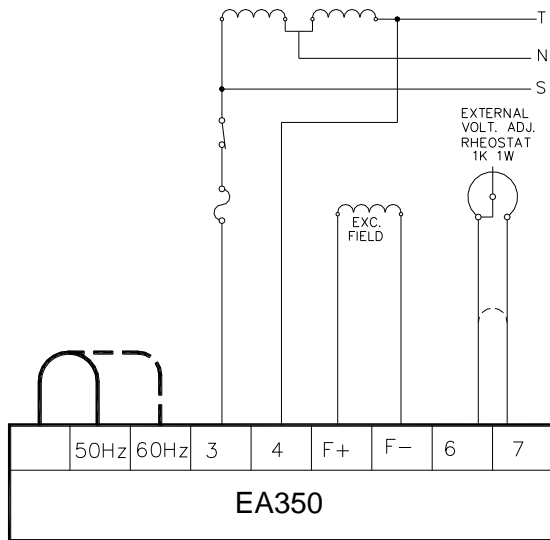

Figure 5 1Ø 220VAC Diagram
- See Figure 5~6 for typical connection diagram.
See Figure 5~6.
When using a remote voltage adjust rheostat, remove the jumper wire across terminals 6 and 7 and install a 2000 ohm 1/2 watt (minimum) rheostat. This will give  $\pm 10\%$  voltage variation from the nominal. (For  $\pm 5\%$  voltage variation use a 1000 ohm 1/2 watt rheostat). See Figure 5~6.